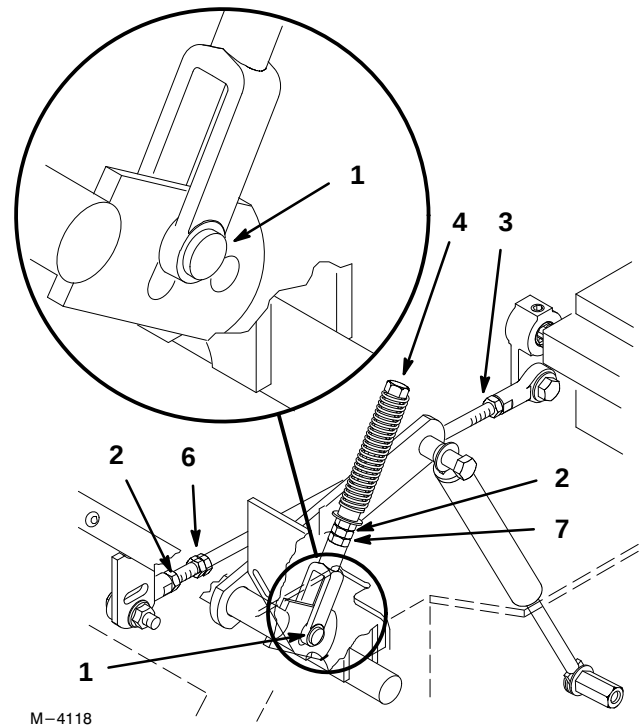

Figure 47
2. Begin with either the left or right motion control lever. Move lever to the neutral (but not locked) position and pull lever back until the clevis pin (on arm below pivot shaft) contacts the end of the slot (just beginning to put pressure on spring) (Fig. 47).
5. Apply slight rearward pressure on the motion control lever, turn the head of the adjustment bolt in the appropriate direction until lever is centered in neutral lock position (keeping rearward pressure on the lever will keep the pin at the end of the slot and allow the adjustment bolt to move the lever to the appropriate position (Fig. 47).
4. If adjustment is needed, loosen the nut against the yoke (Fig. 47).
4. Loosen locknut at ball joint on pump control rod (Fig. 47).
6. Adjust pump rod length by rotating double nuts on rod, in the appropriate direction, until wheel is still or slightly creeps in reverse (Fig. 47).